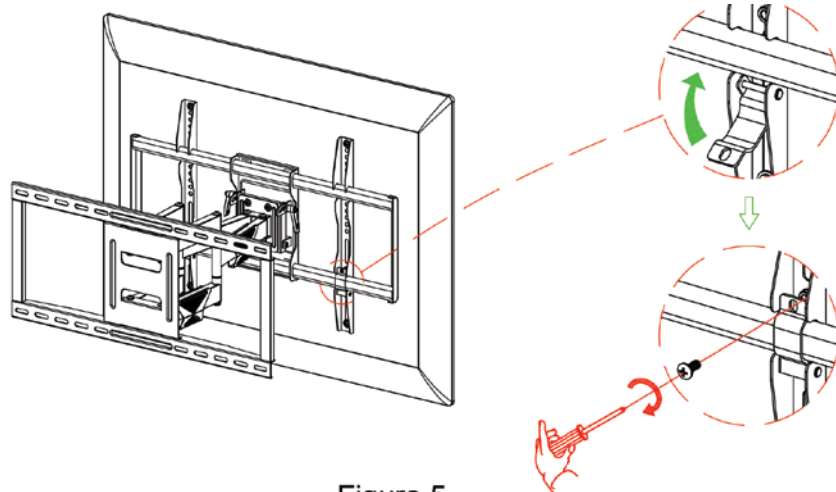

Figure 5
- Fasten the tube clips with brackets by using bolts (K) with a screwdriver. (Figure 5)